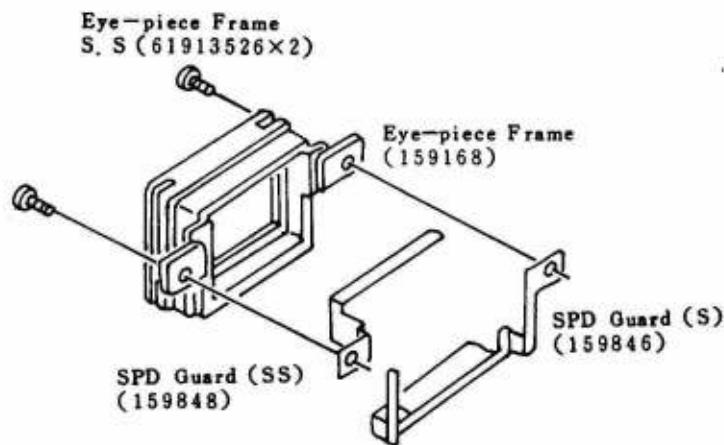

Fig 12
- f) Remove two Eye-piece Frame Set Screws (61913526 × 2), Eye-piece Frame (159168), SPD Guard (SS)(159848) and SPD Guard (S)(159846). (Fig 12)